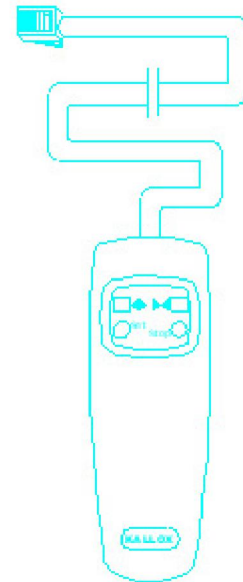

Figure 3
- c. One Control Pad (Figure 3)